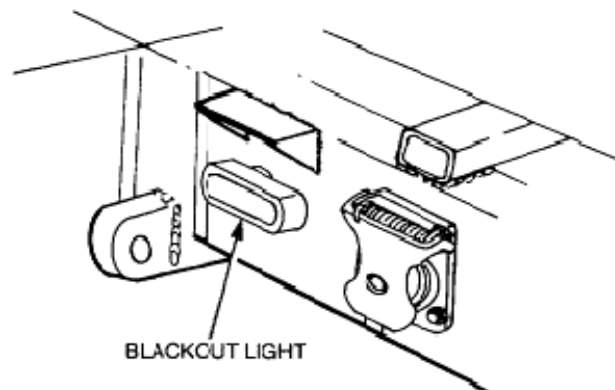

Figure 157 Blackout Stop/Tail Light Removal
- c. Remove the two nuts and washers securing the light unit to the rear cross-member (Figure 157).